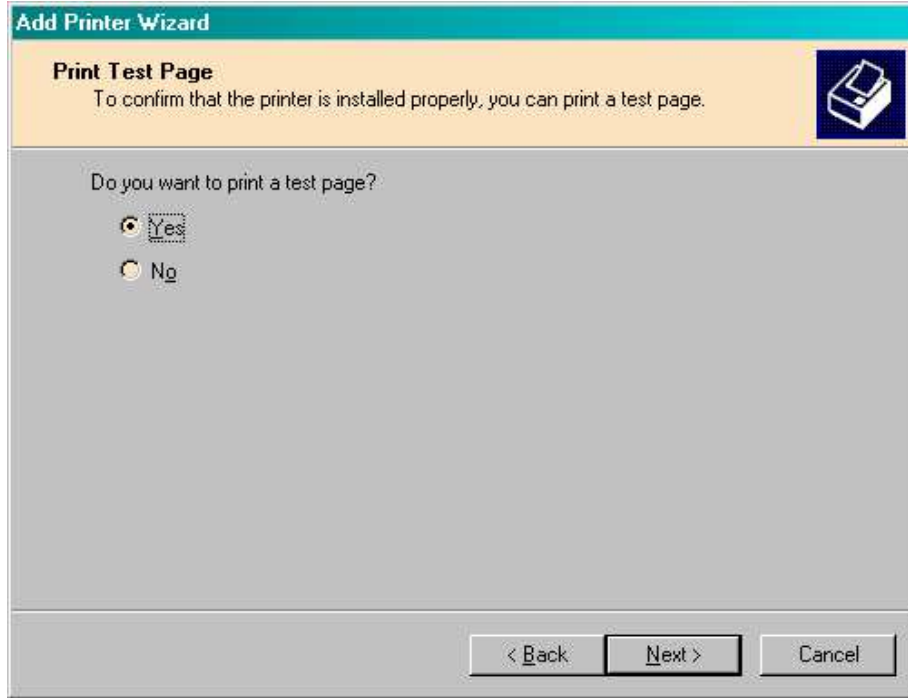

Figure 12
13. It is always useful to print a test page to verify installation (Figure 12): select **Yes**, then **Next**: